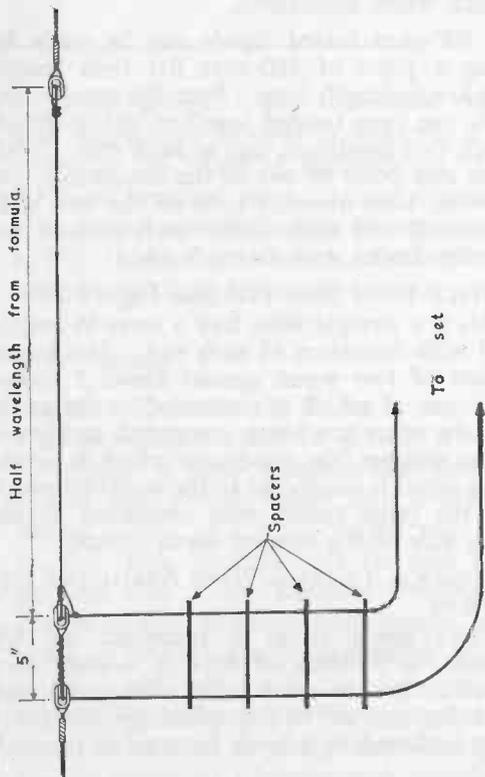

Fig. 18.3 Half wave end fed aerial.
#### (3) HALF WAVE END FED (see Fig. 18-3)